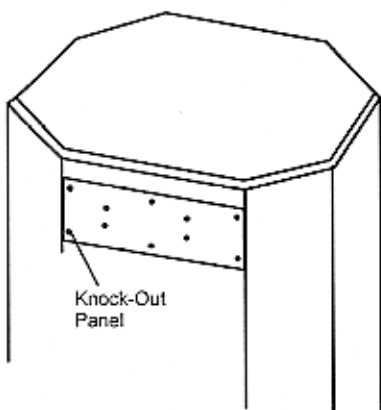

Figure 12-F-Removing Stove Knock-out Panel
1. Remove the knock-out center panel from back of heater with a Phillips head screwdriver (see Figure 12-F).